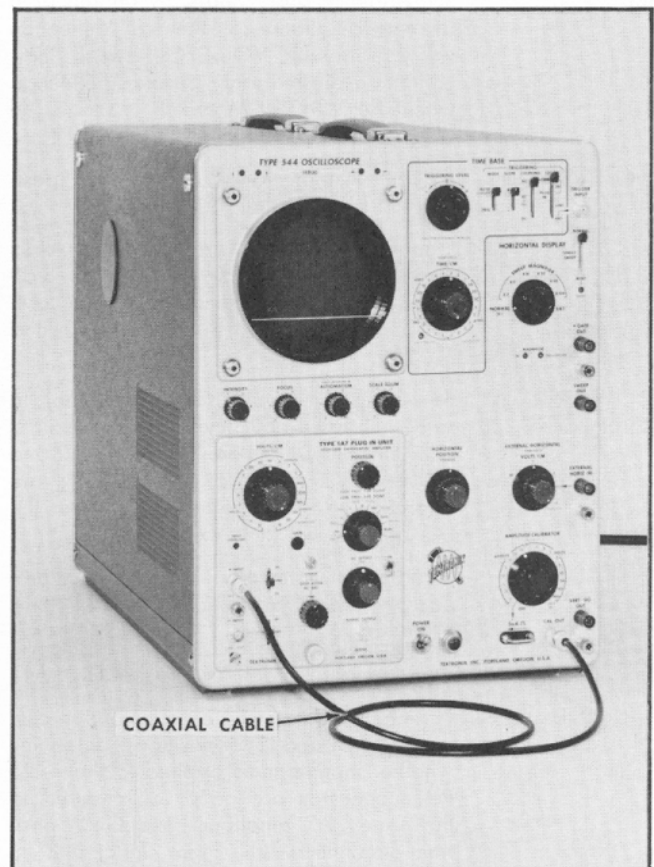

Fig. 2-2. Setup at completion of step 8 in the First-Time Operation procedure.
8. Apply a 50-mV peak-to-peak calibrator signal through a coaxial cable to the +INPUT connector on the Type 1A7. Fig. 2-2 illustrates this type of setup.